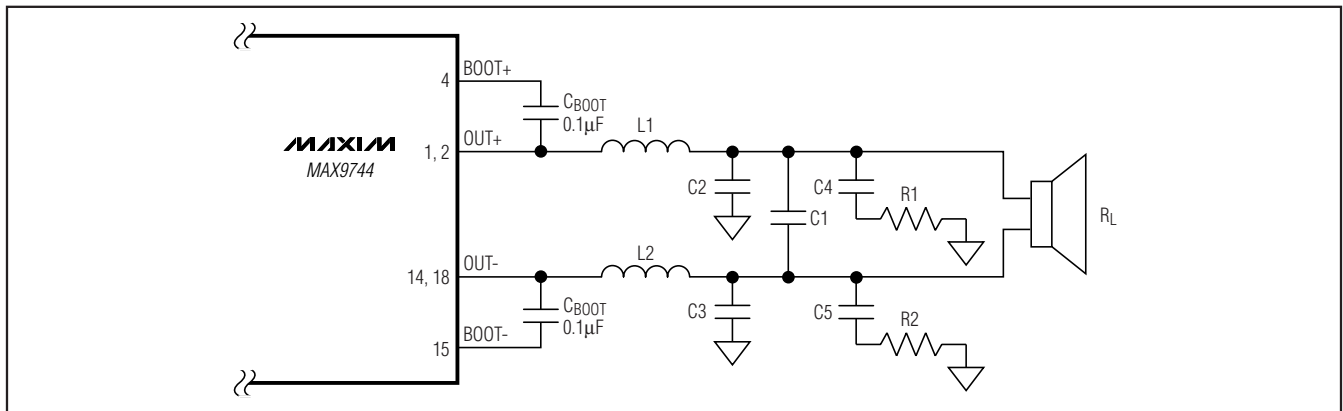

Figure 8. Output Filter for PWM Mode
Some applications use the MAX9744 with a full inductor/capacitor-based (LC) output filter. This is common for longer speaker lead lengths and to gain increased margin to EMC limits. Select the PWM output mode and use fixed-frequency modulation mode for best audio performance. See Figure 8 for the correct connections of these components.